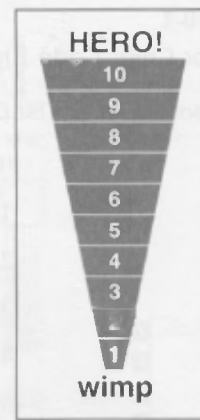

Figure 10-5 Tingler Project template
Well, now is the "moment of truth." Locate a 9-volt battery and snap into the battery clip. If you installed an on/off switch "turn" the switch to the "on" position. Touch two fingers of the same hand to the touch pads, while varying the slide potentiometer. Note which end of the slider produces the most tingling sensation and note it on the board with (H) for high or (L) for low. Turn off the circuit and locate the decal and paste it to the circuit board next to the slider potentiometer based on the high and low settings. The number 1 corresponds to "Wimp" or the lowest tingling, and the 10 notes "Hero" or "Champ" (see Figure 10-5).